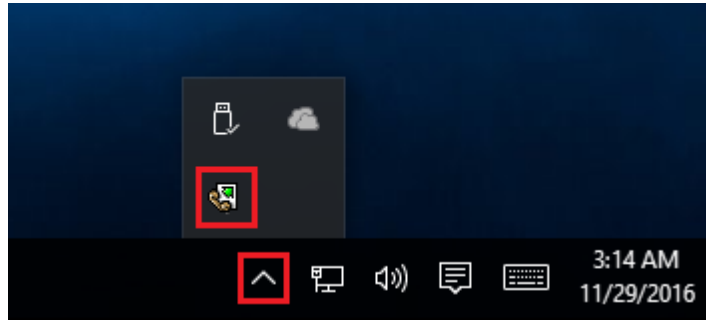

Fig. 6.4.2 Service icon in Systray
2. **Manual** - you can start the service application in the "Services" window in the Control panel (fig. 6.4.2);
If you want to change program settings while service mode, then enable the "Allow service to interact with desktop" option. In this case, the program will put the icon to the SysTray (fig. 6.4.2). But then your interactive service will be restarted while user log off.